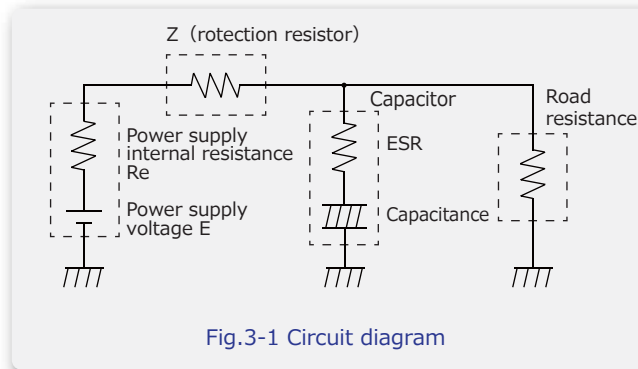

Fig.3-1 Circuit diagram
When the OS-CON is used in the following circuit as Fig.3-1, a rush current may flow because the ESR is extremely small. Maintain the rush current at 10A or less. If as long as 10 times of the allowable ripple current of the OS-CON exceeds 10A, reconfigure so that the ripple current does not exceed 10 times.
- \* There is the possibility that an extremely large amount of a rush current will flow through the OS-CON during voltage adjustment or inspection of the DC-DC converter 's circuit block when the power impedance supplied from the equipment being adjusted or inspected is exceedingly low and the current suppression function of the current limiter and such is provided. (Refer to Fig.3-1)
- \* There is the possibility of an extremely large amount of a rush current flowing through the low ESR capacitors arranged along the power line when the power is turned on for circuits driven by nickel cadmium chargeable batteries etc. That have a very low internal resistance. (Refer to Fig.3-1)
When there is no protection resistor  $Z$  as shown in Fig.3-1 and the power supply has  $R_e$  nearly  $= 0 \Omega$ , The OS-CON rush current is as follows.